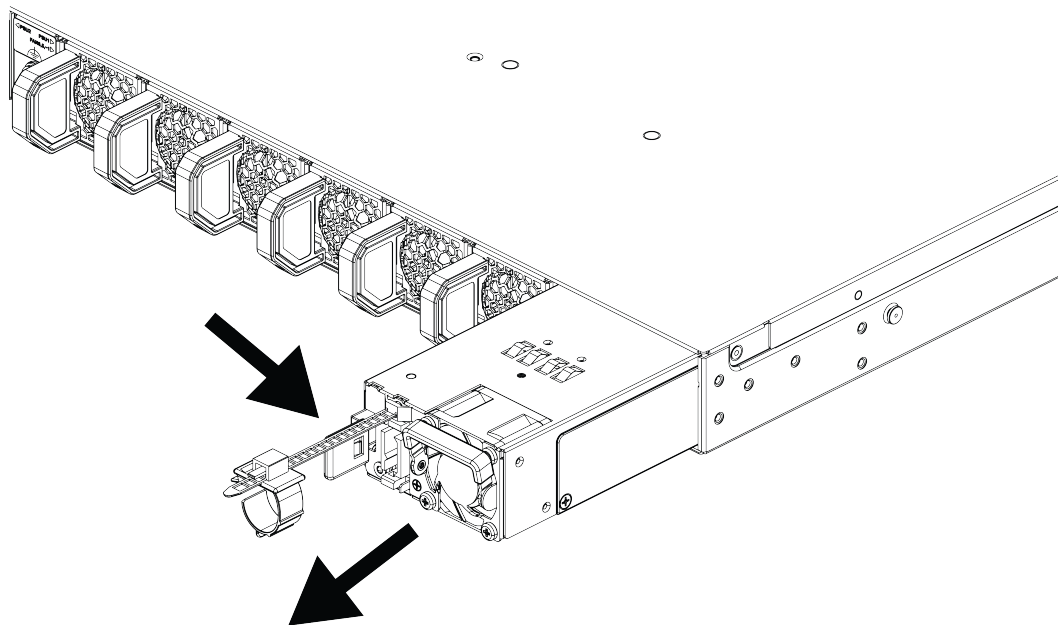

Figure 34: Remove an 800 W DC Power Supply
3. Push the latching tab toward the power supply handle and pull outward on the handle to disengage the power supply internal connectors, as shown in Figure 34.
4. Carefully slide the power supply the rest of the way out of the switch, as shown in Figure 34.